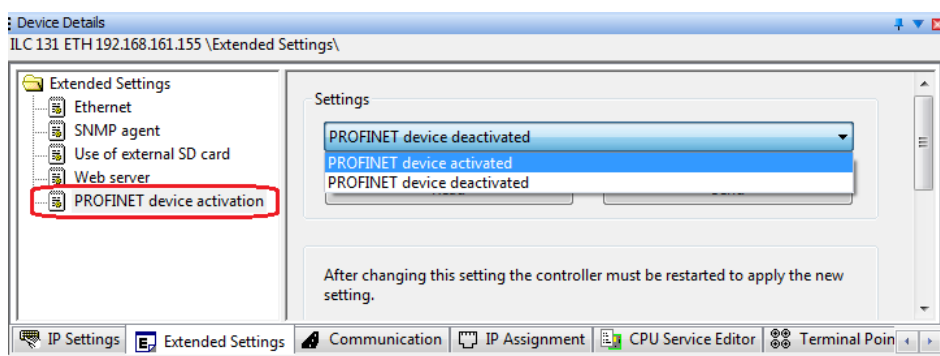

Figure 3-8 Switching on the PROFINET device function
- Click “Send” (hidden by the drop-down list in Figure 3-8).